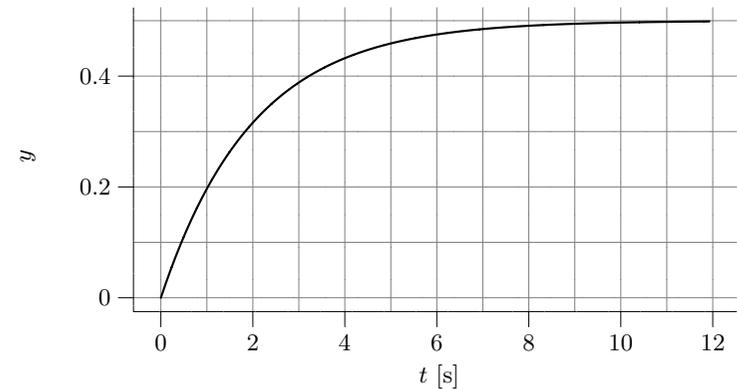

Figure 5.9c
In order to find the constants k_A and a , a unit step experiment has been carried out on the amplifier, giving the output shown in Figure 5.9c.
- a) Find the constants k_A and a from Figure 5.9c. Also draw the Bode plot for the open loop system, that is, the system from u to y .